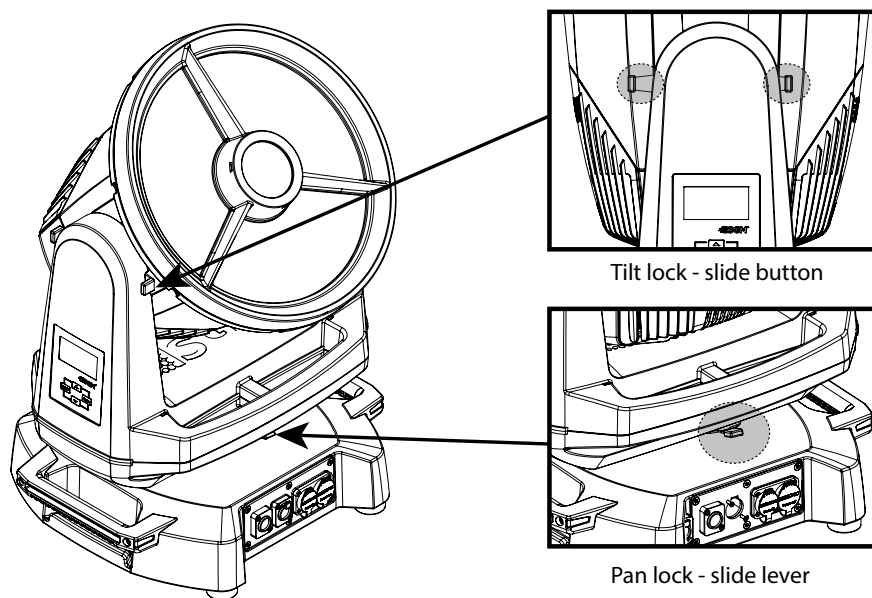

Figure 4: G-7 BeaSt tilt lock
6. Check if the tilt and pan lock is released (fig. 4). If not, push the slide button shown in the figure 4 to the right to release the tilt lock.